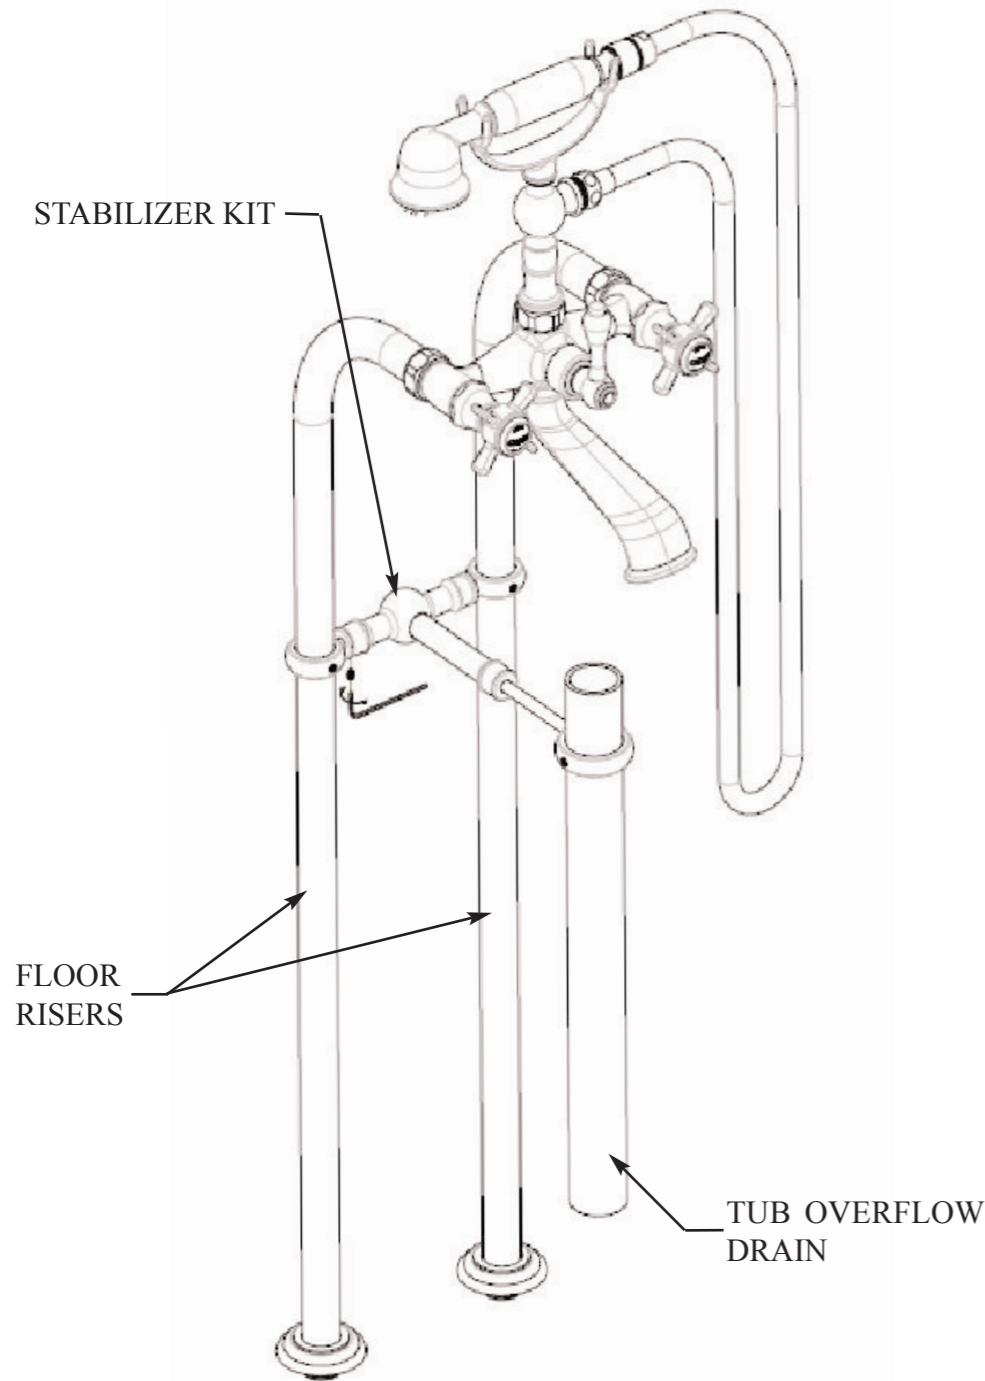

Figure 1
2. Adjust Stabilizer Rings to fit over Floor Risers and Tub Overflow Drain (See Figure 1)